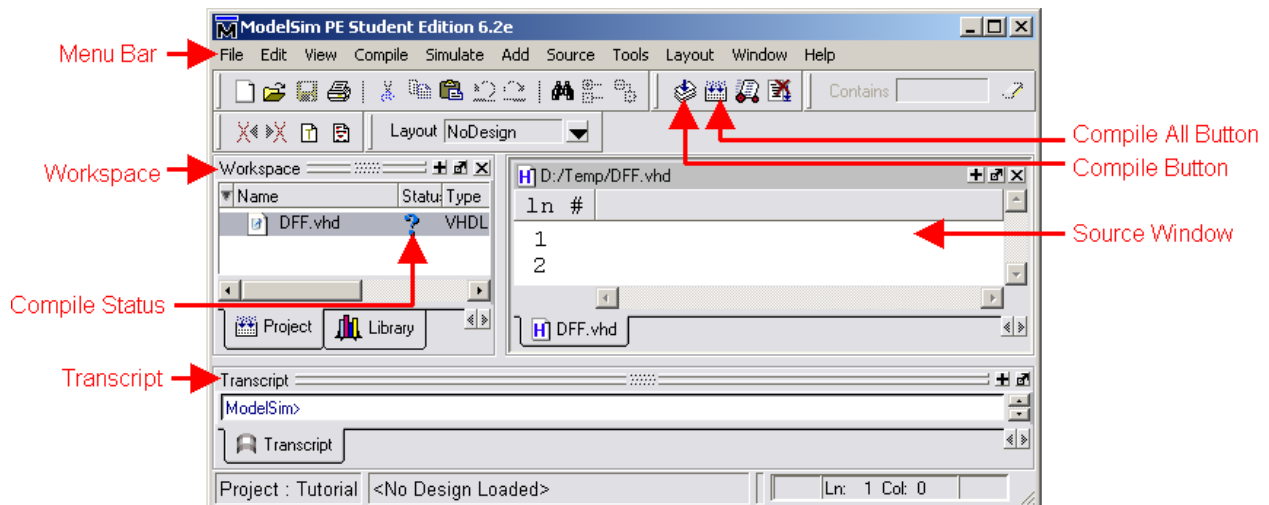

Figure 5: ModelSim's Interface
- In the workspace window of the main interface (see Figure 5), double-click on the file you have just created (DFF.vhd).